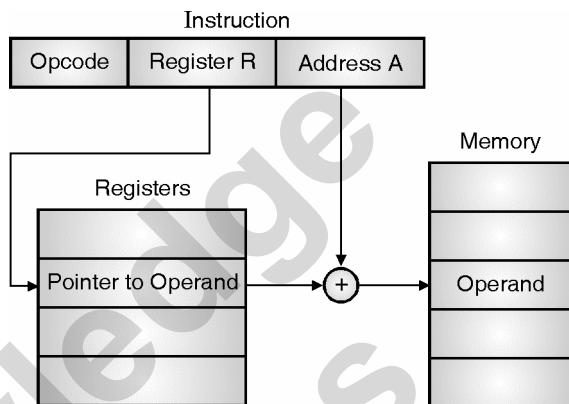

Fig. 10.3.6 : Displacement addressing mode
- The structure of the instruction and the access method for the displacement addressing mode is shown in Fig. 10.3.6.